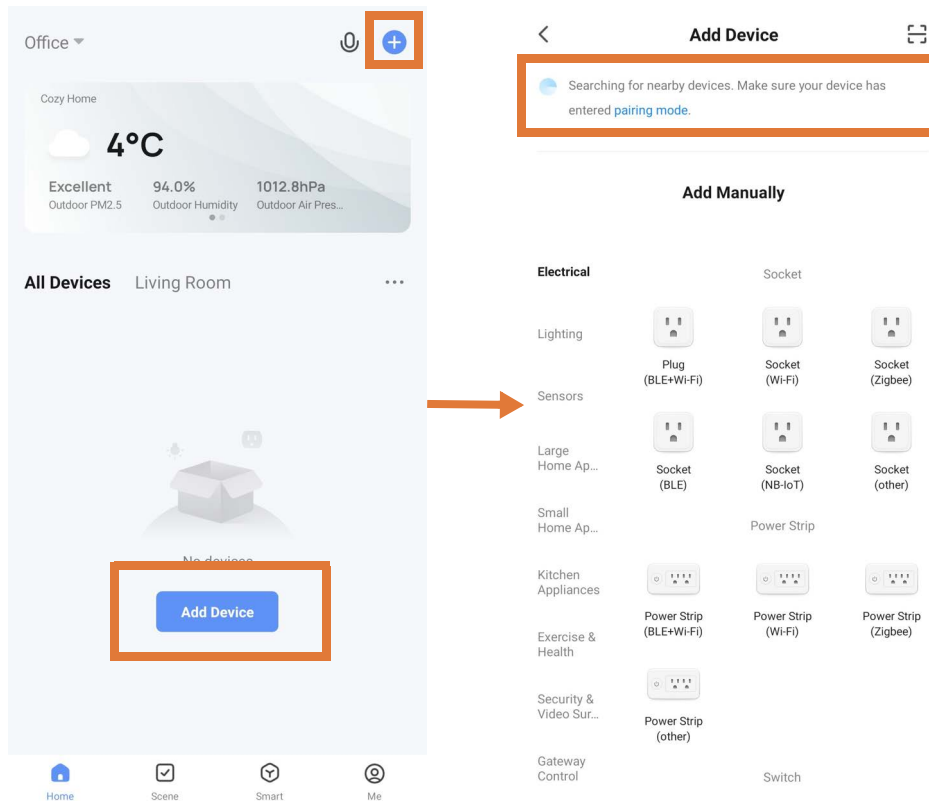

Figure 7 | Adding device on Smart Life app
2. The app should start scanning, as shown by the icon at the top of the screen (see **Figure 7**). If this icon and text does not show, press  in the top right-hand corner.